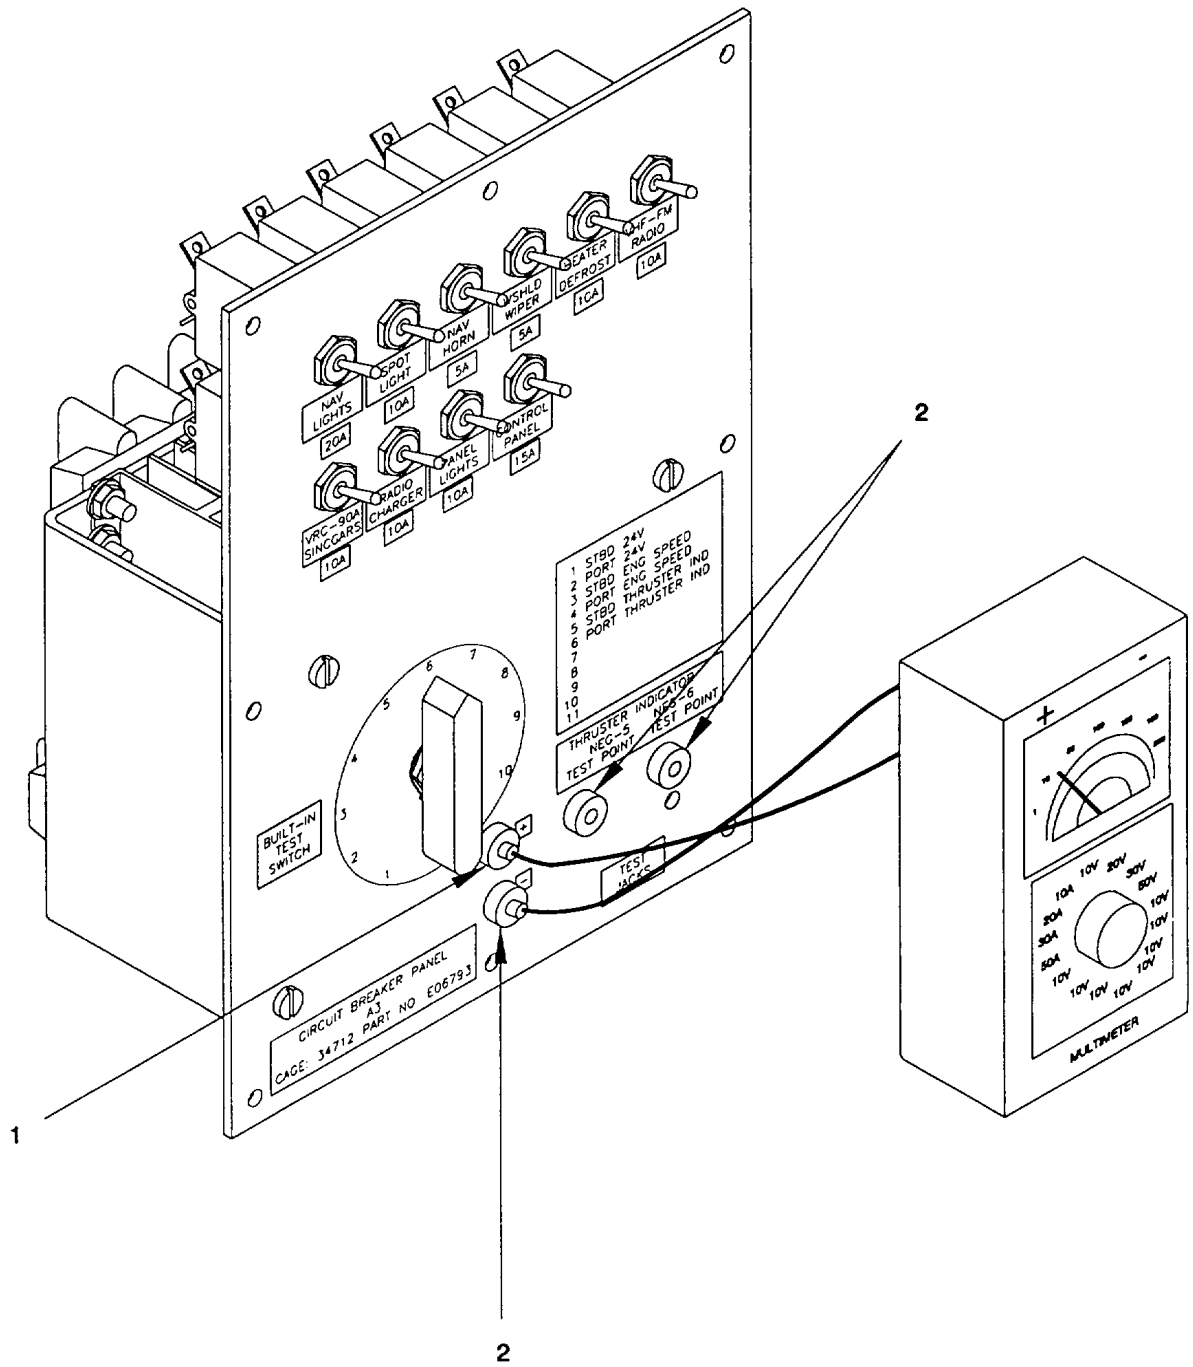

Figure 2-133. Circuit Breaker Panel "A3", Operator Cab, Test.
- a. Test, Propulsion Module. (figure 2-133)